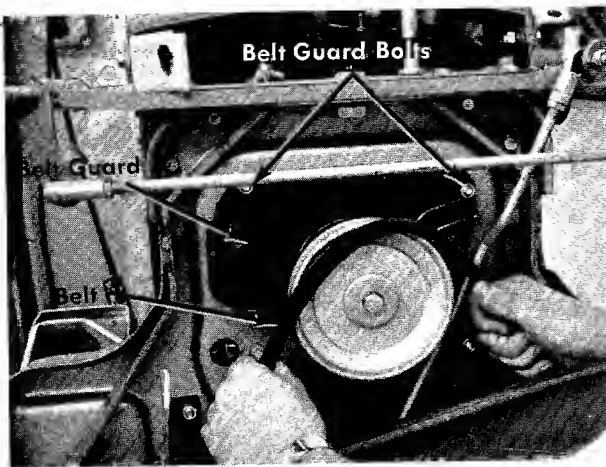

FIGURE 27. REMOVING MOWER BELT
Step 3. Unhook the belt from the engine pulley. See figure 27.